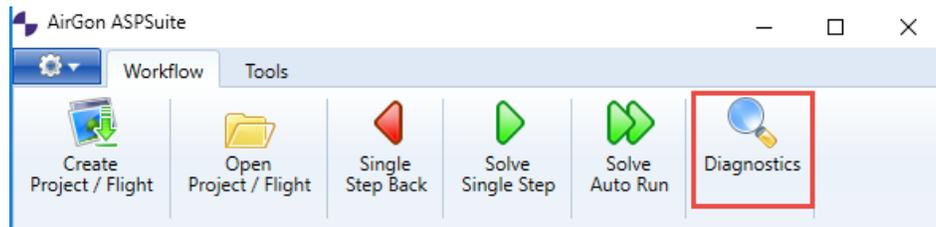
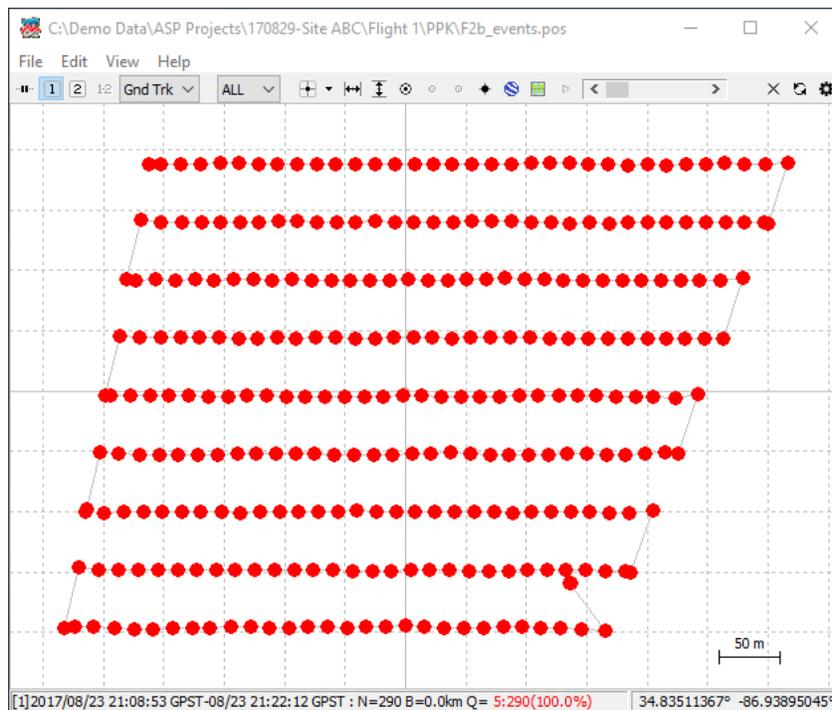

Figure 23 – Diagnostics
Figure 24 – Events
17. Once complete, click *Diagnostics* (Figure 23) to view the event positions. Observe the events (Figure 24) and check for large gaps. Also, check to make sure the flight lines match those in the flight plan. Getting 100% Q1 events is the correct result (see bottom of diagnostics window), but will not be achieved during the field check. This means that the positions are fixed (2cm or less). Q2 events mean that a “float solution” and will not provide the necessary accuracy needed. Q5 events usually mean that the files are incorrect or missing. Q5 is the expected result during the field check because the base station observation file has not been imported yet. Note that there is a text file called xxxxxxxxxxxx\_event.pos in the PPK folder under the Flight folder. The last column in that file shows the Quality (Q) of each GPS event (Figure ).